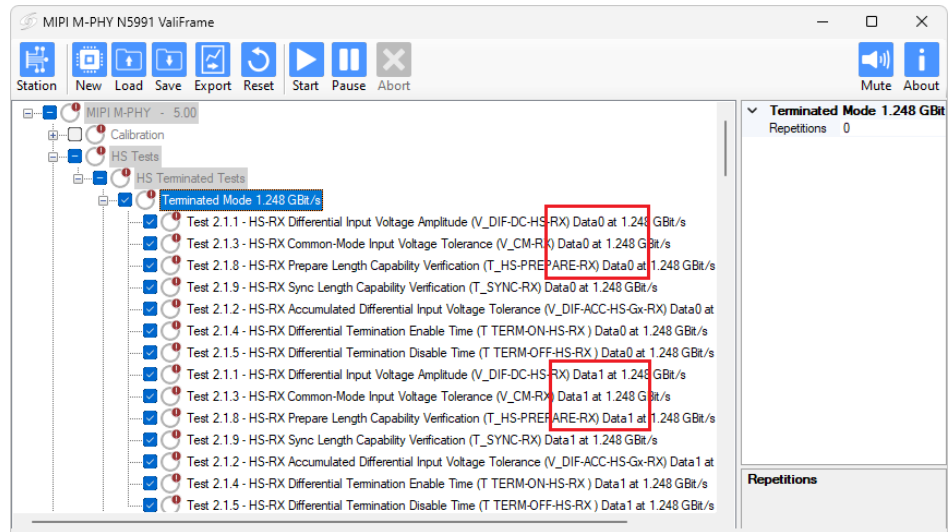

Figure 2-13 Lane Test Mode 'Individually'
- “Individually”: Procedures are available for Data0 and Data1 (Figure 2-13).